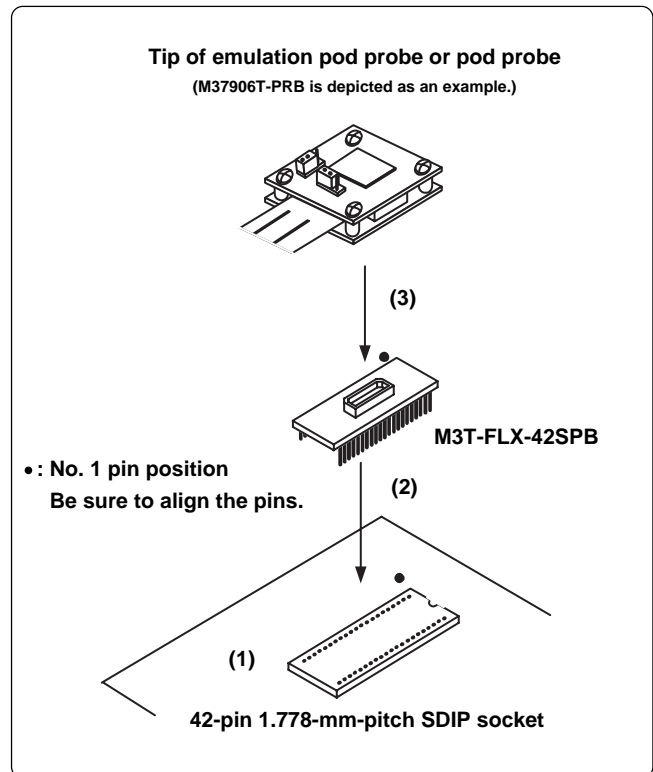

Figure 2 Connection procedure of the M3T-FLX-42SPB
4. Connection Procedure (see Figure 2)